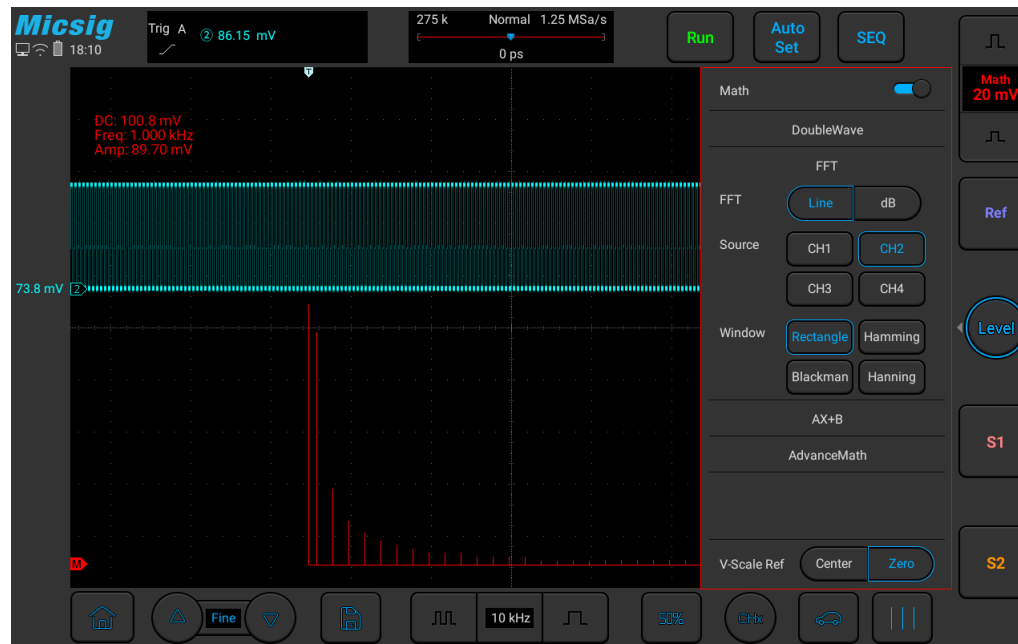

Figure 9-3 FFT Window
- 2) Tap  spectrum type “Line/Decibel” to open the FFT window (see Figure 9-3 FFT Window).